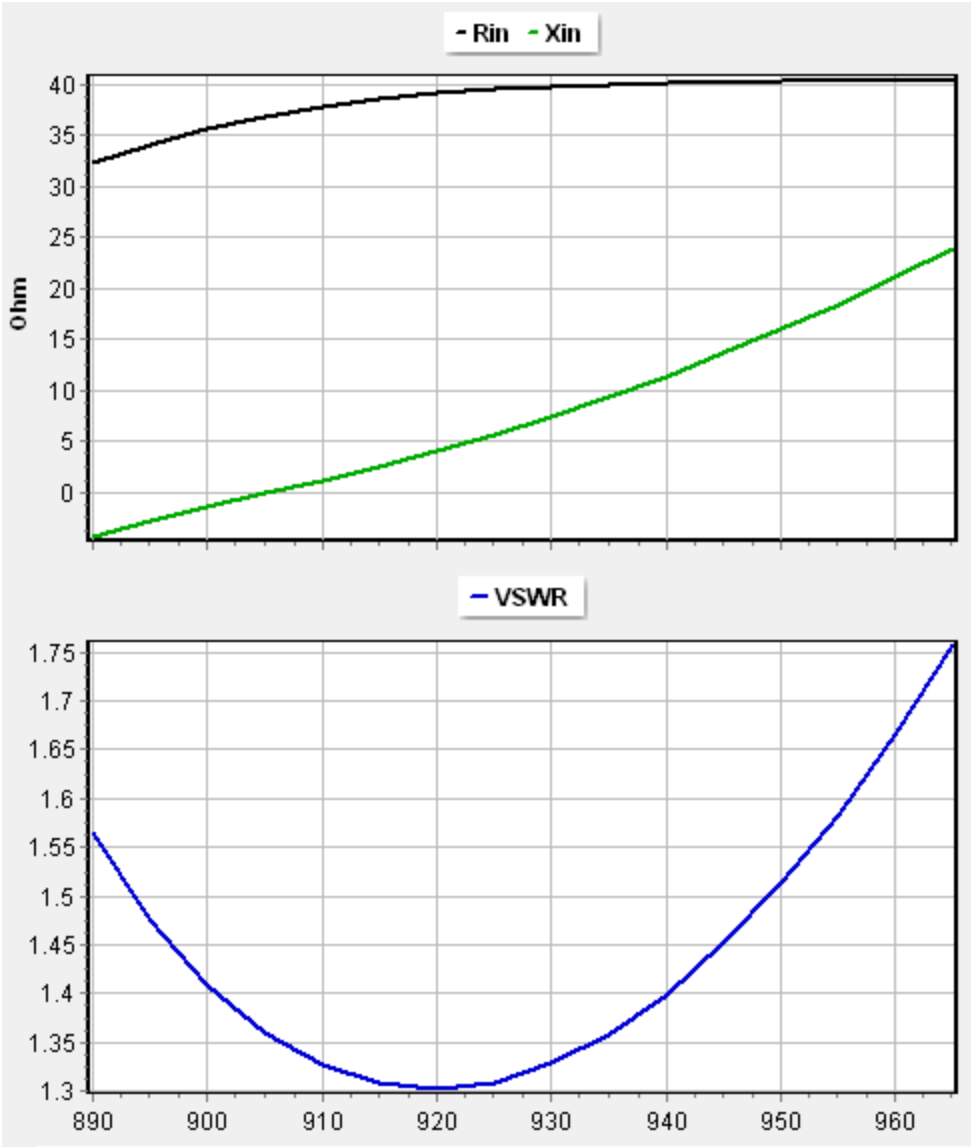

Fig. 2: Input impedance and Voltage Standing Wave Ratio (VSWR) of the primary radiator as functions of frequency (in MHz).
1. **Impedance and VSWR:** As illustrated in **Fig. 2**, the VSWR remains below **1.75** across the 890–965 MHz band. The input impedance sits close to the $50\ \Omega$ center point, eliminating the need for external tuning.